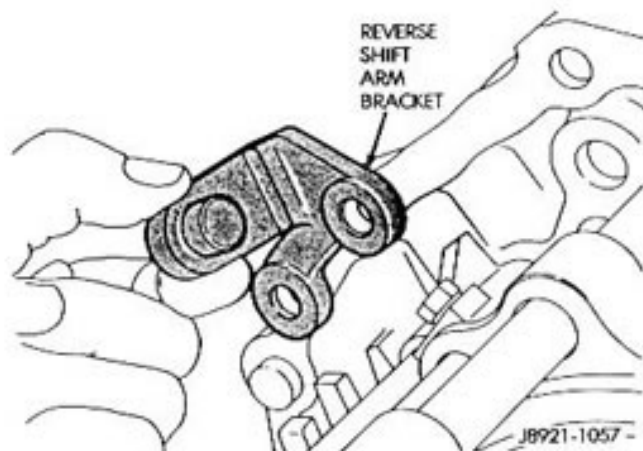

Fig. 27 Removing Reverse Shift Arm Bracket
(6) Remove the bolts attaching the reverse shift arm bracket to the intermediate plate. Then remove the bracket (Fig. 27).